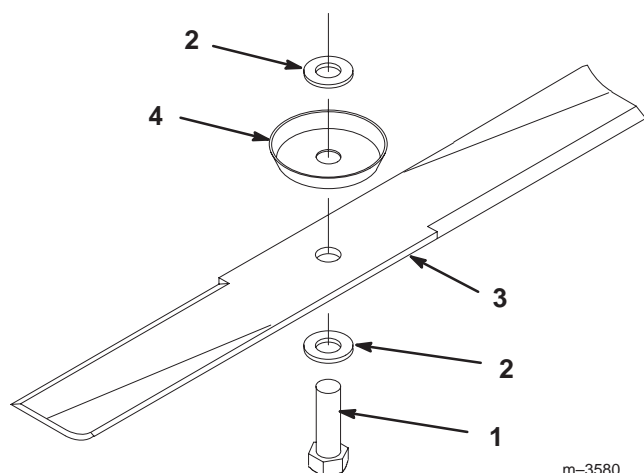

Figure 33
4. Remove the bolt, washer, blade, spindle cup, and washer (Fig. 33).